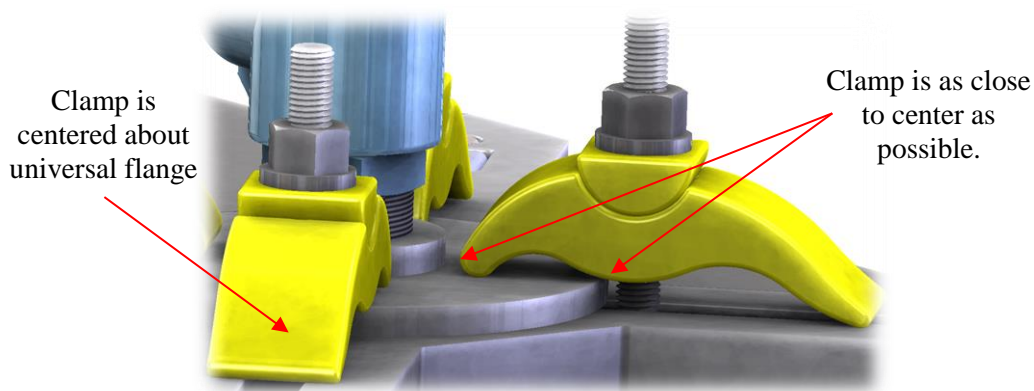

Figure 12: Flange Clamps
- b. The clamps should be as close to the valve as possible with still having proper contact. See Figure 12.
- ii. The clamps should be as close to the valve as possible with still having proper contact. See Figure 12.